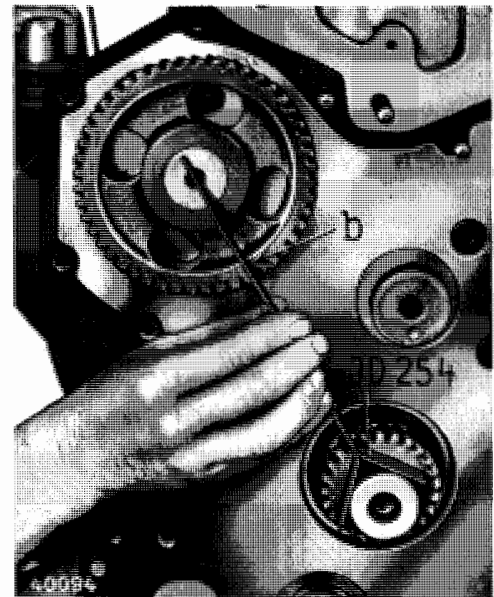

Fig. 3 - Timing Camshaft Gear by means of Timing Tool No. JD 254
5. With the crankshaft set at TDC as indicated in item 2, align mark "b" stamped onto camshaft gear (see fig. 3) with line drawn through center of crankshaft and camshaft as shown in fig. 3, using timing tool No. JD 254 and rotating the camshaft.